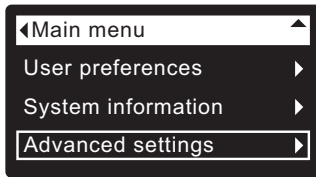

FIG. 40
2. From any of the rolling status screens, press the conditioner/refiner’s SELECT (O) button to display the **Main menu**.
3. Press the conditioner/refiner’s DOWN (▼) button to scroll through the menu options until **Advanced settings** is highlighted (See Figure 40).